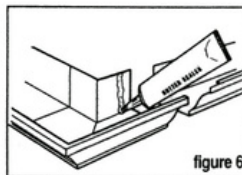

figure 6
Notch the top front bead and rear gutter (figure 6) to overlap sections 2". Apply Ample Gutter Sealer over one surface of the joint and press together with the mitre section (3) (4). Apply a bead of sealer along the inside edges of all joints.